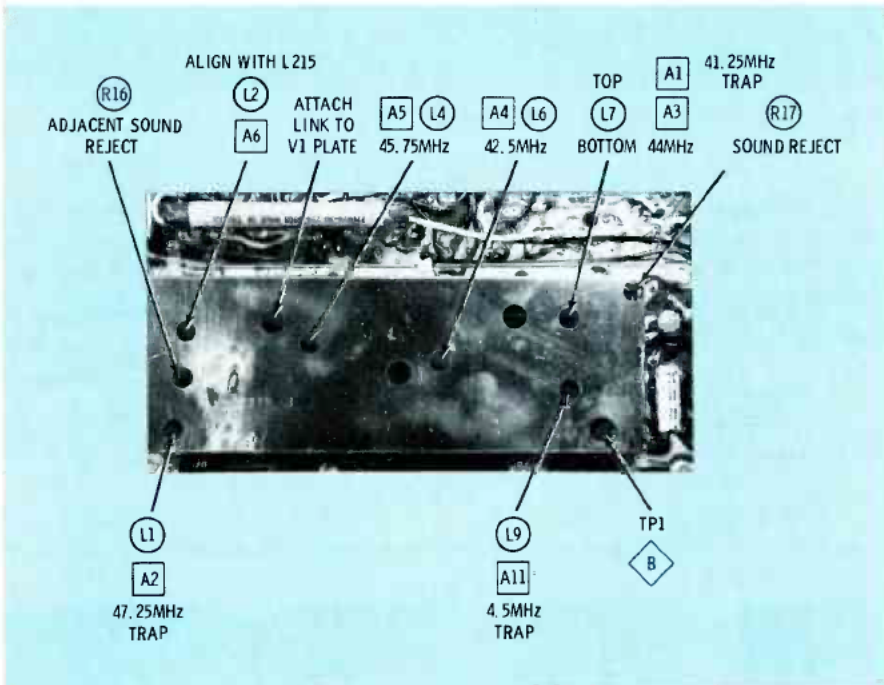
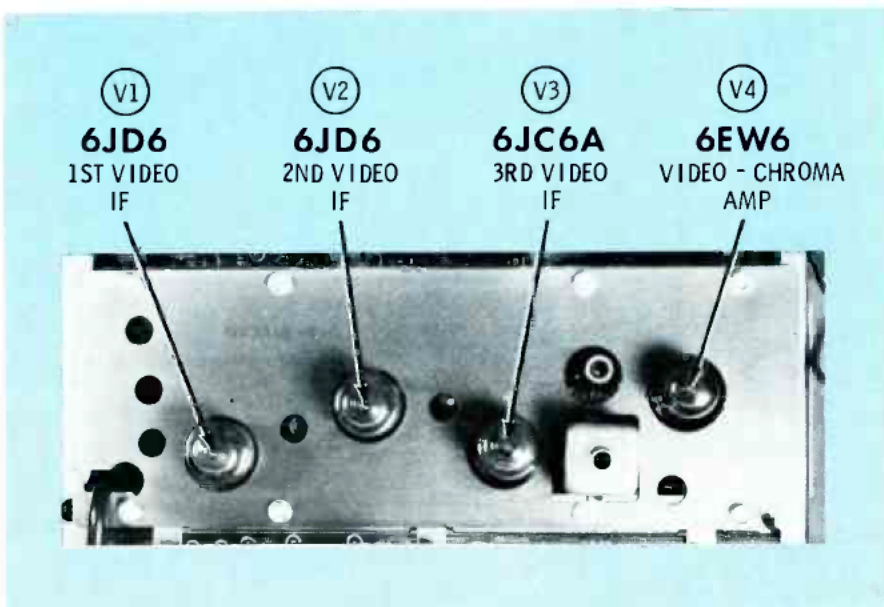

Fig. 5A Location of the IF coils and adjustments in the Admiral 6H10 chassis.
Fig. 5B View of the top of the IF shield and the location of specific tubes.
testpoint for injecting the IF sweep signal into the grid circuit of the mixer tube. Locations of the IF adjustment cores and access holes for the probes are shown in Fig. 5A, while Fig. 5B shows the top side of the IF board and the tube locations.
6. Connect the red clip of the **Sen-core** 39G23 probe to the video detector (TP1, Fig. 5A) and the black clip to a nearby ground. Pre-set the **output** switch to "10K microvolts" and the **RF fine** control near "off". Switch on all the IF markers except 39.75 MHz. Adjust the **RF fine** control for 2 volts p-p at TP1.
clipping the capacitor to the plate buss wire of V1, using the access hole (location is shown in Fig. 5A) to admit the insulated clip. Solder the free end of the resistor to the IF shield. Keep the leads short. Attach the blue clip of the 39G23 Sencore universal detector probe to the junction of the resistor and the capacitor and then ground the black clip.